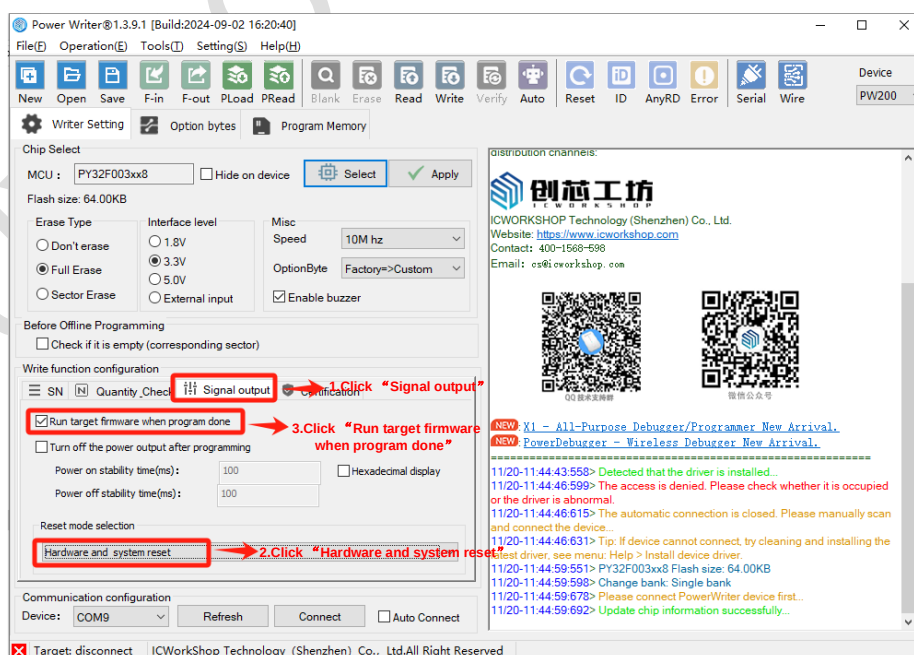
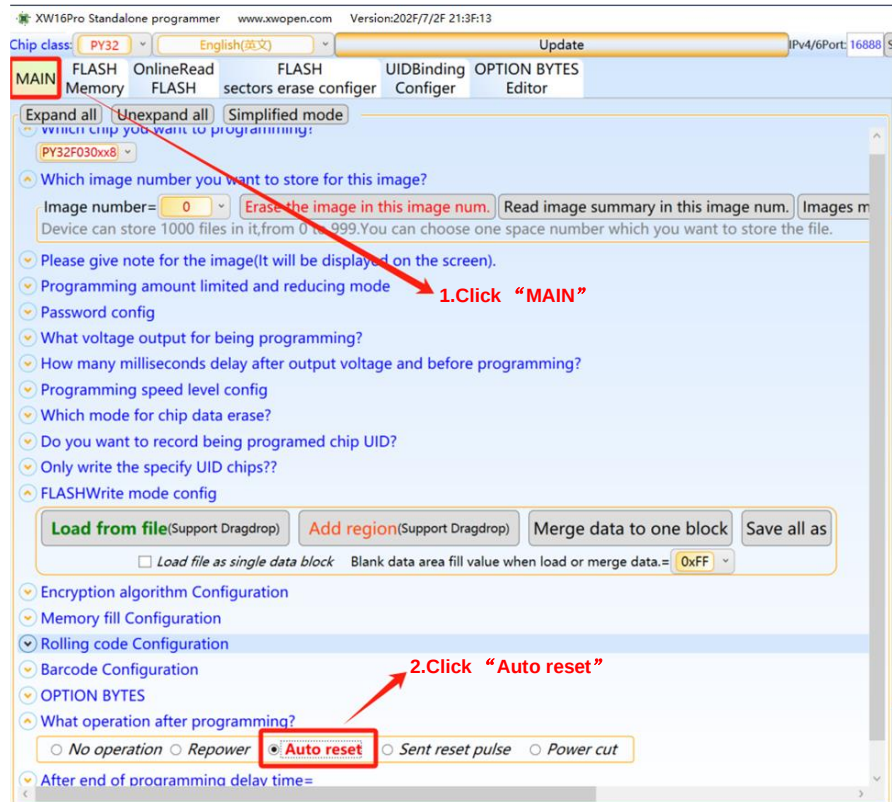

Figure 17-3 Power Write Operation Tick 'Reboot Chip After Programming'
Figure 17-4 XW Operation 'Smart Reset'
- When configuring the Option of the programmer, you need to check the "Smart Reset" function or "Restart the chip after programming" (programmers typically have similar options that need to be selected). The specific steps are shown in Figures 17-3, Figure 17-4.